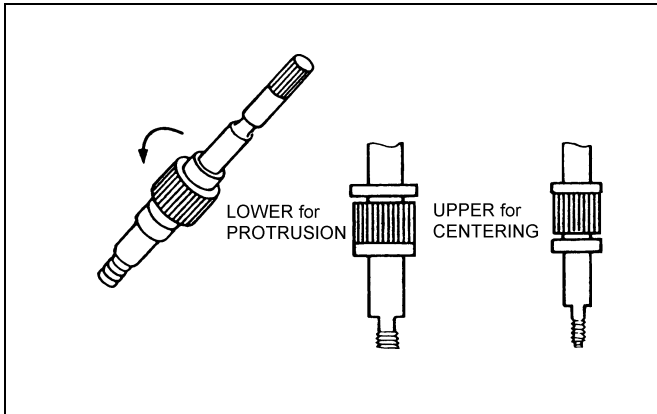

Figure 1 Attachment Shaft
1. Set the attachment shaft by turning the center screw clockwise as shown in figure 1 .